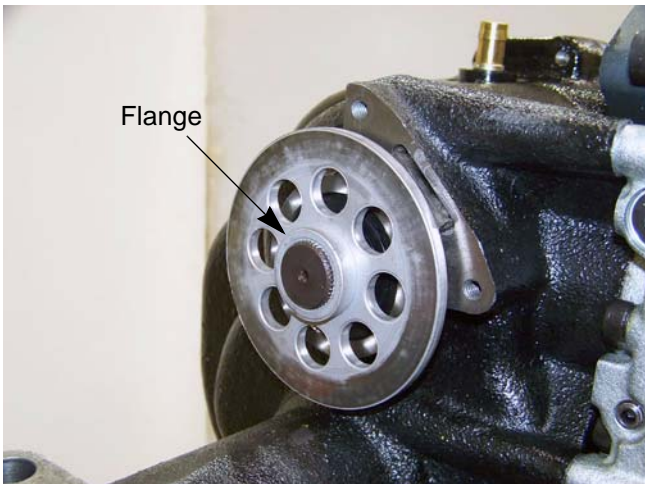

Figure 5.36
7. Remove the brake disk from the output shaft. See Figure 5.36.